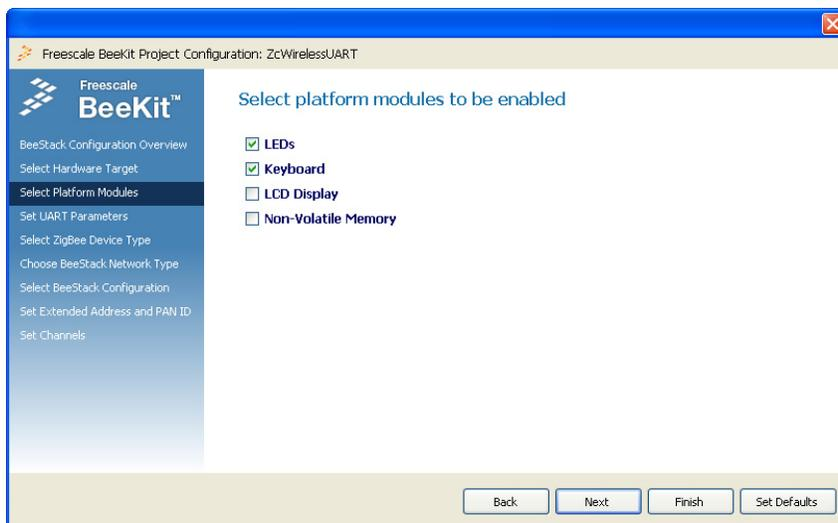

Figure 5-5. Platform Modules Page
2. Select the MC1320x-S08QE128-EVB option and click on the Next button. The Select Platform Modules window appears as shown in Figure 5-5.